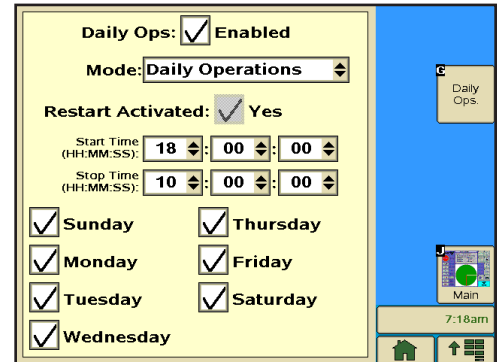

Figure 173-1
1. Push **Prog** and **Daily OPS** to view the Daily OPS Program screen. Refer to Figure 173-1.